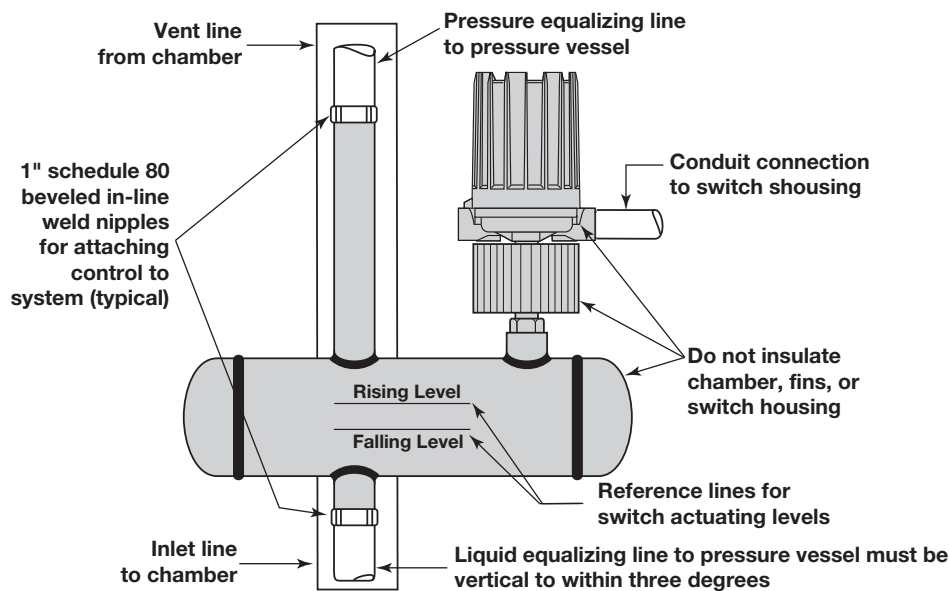

Figure 3
Figure 3 shows a typical piping installation of a Model B40 in a pipeline to a pressure vessel. Reference lines, on float chamber, should be aligned to correspond with liquid level in the vessel at which switch control is desired (refer to dimensional drawing, if furnished). Use pipe of sufficient strength to support the unit. If necessary, provide a stand or hanger to help support its weight. All piping should be straight and free of low spots or pockets so that the lower liquid line will drain towards the vessel and the upper vapor line will drain towards the control. Pipeline should be insulated, as shown, to minimize loss of liquid temperature and further control of the heat in the area of the switch housing. DO NOT insulate switch housing or float chamber.
6. If switch magnet assembly swings freely and mechanism still fails to actuate, check installation of control to be certain it is within the specified three degrees of vertical. (Use spirit level on side of enclosing tube in two places, 90° apart.) Refer to Figure 3 on page 5.